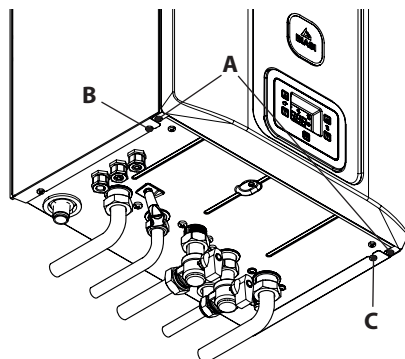
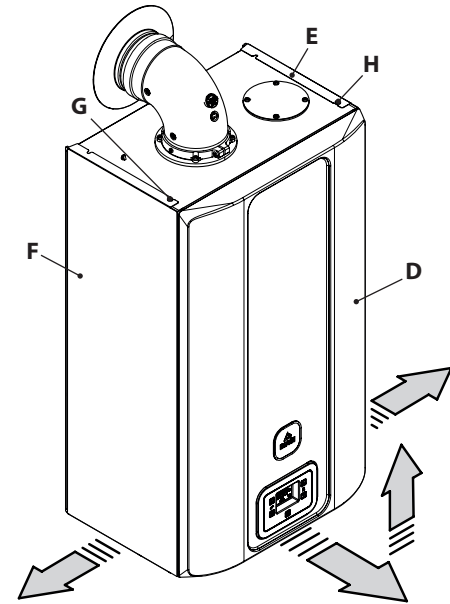

Figure 9.7
Figure 9.8
- Unscrew the screws **A** and remove the front panel **D** by pulling it towards you and then pushing it upwards in order to free it from the upper seats (Figure 9.7 and Figure 9.8).
Loosen the screws **B**, **C**, **G** and **H** in Figure 9.7 and remove the two side panels **E** and **F** push them outwards.